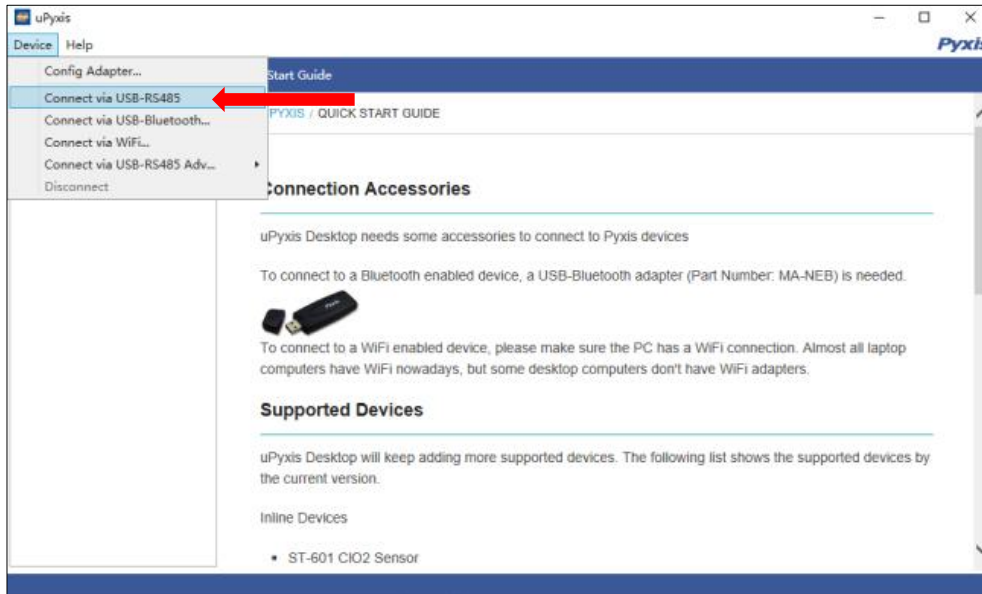

Figure 26. Connect to RT-110 via USB-RS485 option
4. If the connection is successful, the Prism RT-110 and its Serial Number (S/N) will be displayed (Figure 26).